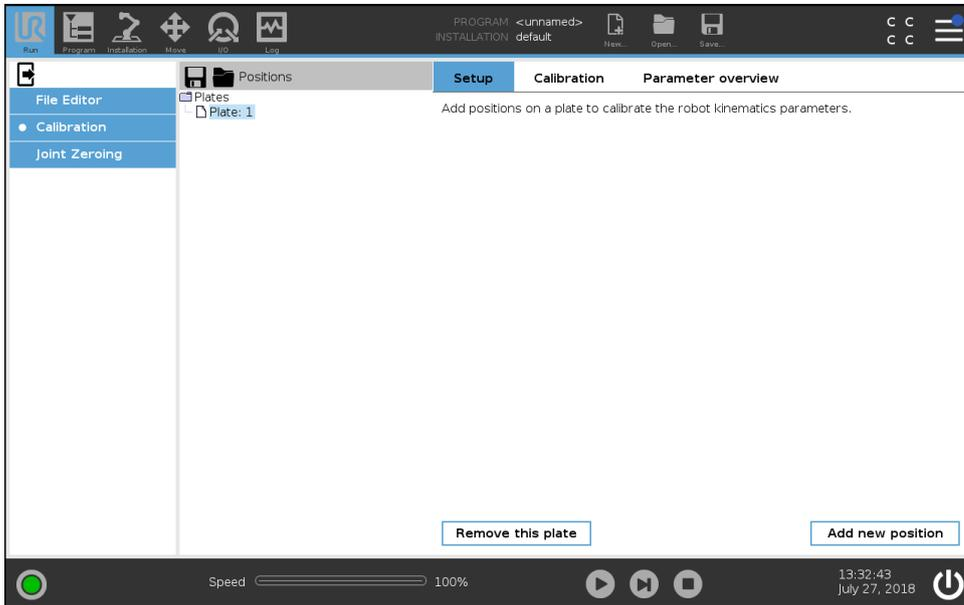

Figure 1.5: Select **Add new positions** to add a position to the selected plate.
- (6) Tap **Add new position** and input Plate Position by tapping the value fields. These are the X, Y and Z coordinates, relative to the positioning plate, (see Figure 1.5).